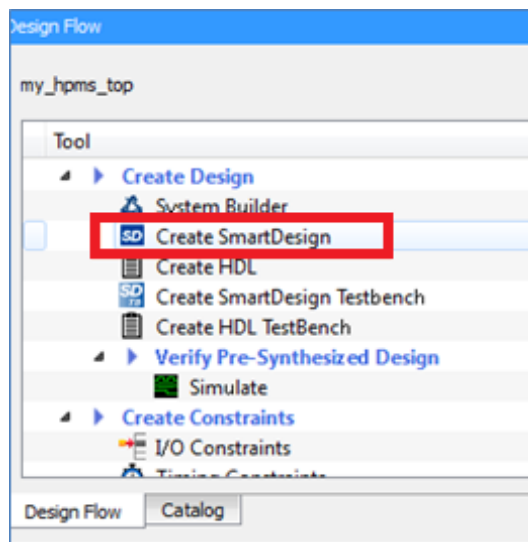

Figure 29 Creating New SmartDesign in the Libero SoC
1. Double-click **Create SmartDesign** in the **Design Flow** tab, the **Create New SmartDesign** dialog box opens, as shown in Figure 29.